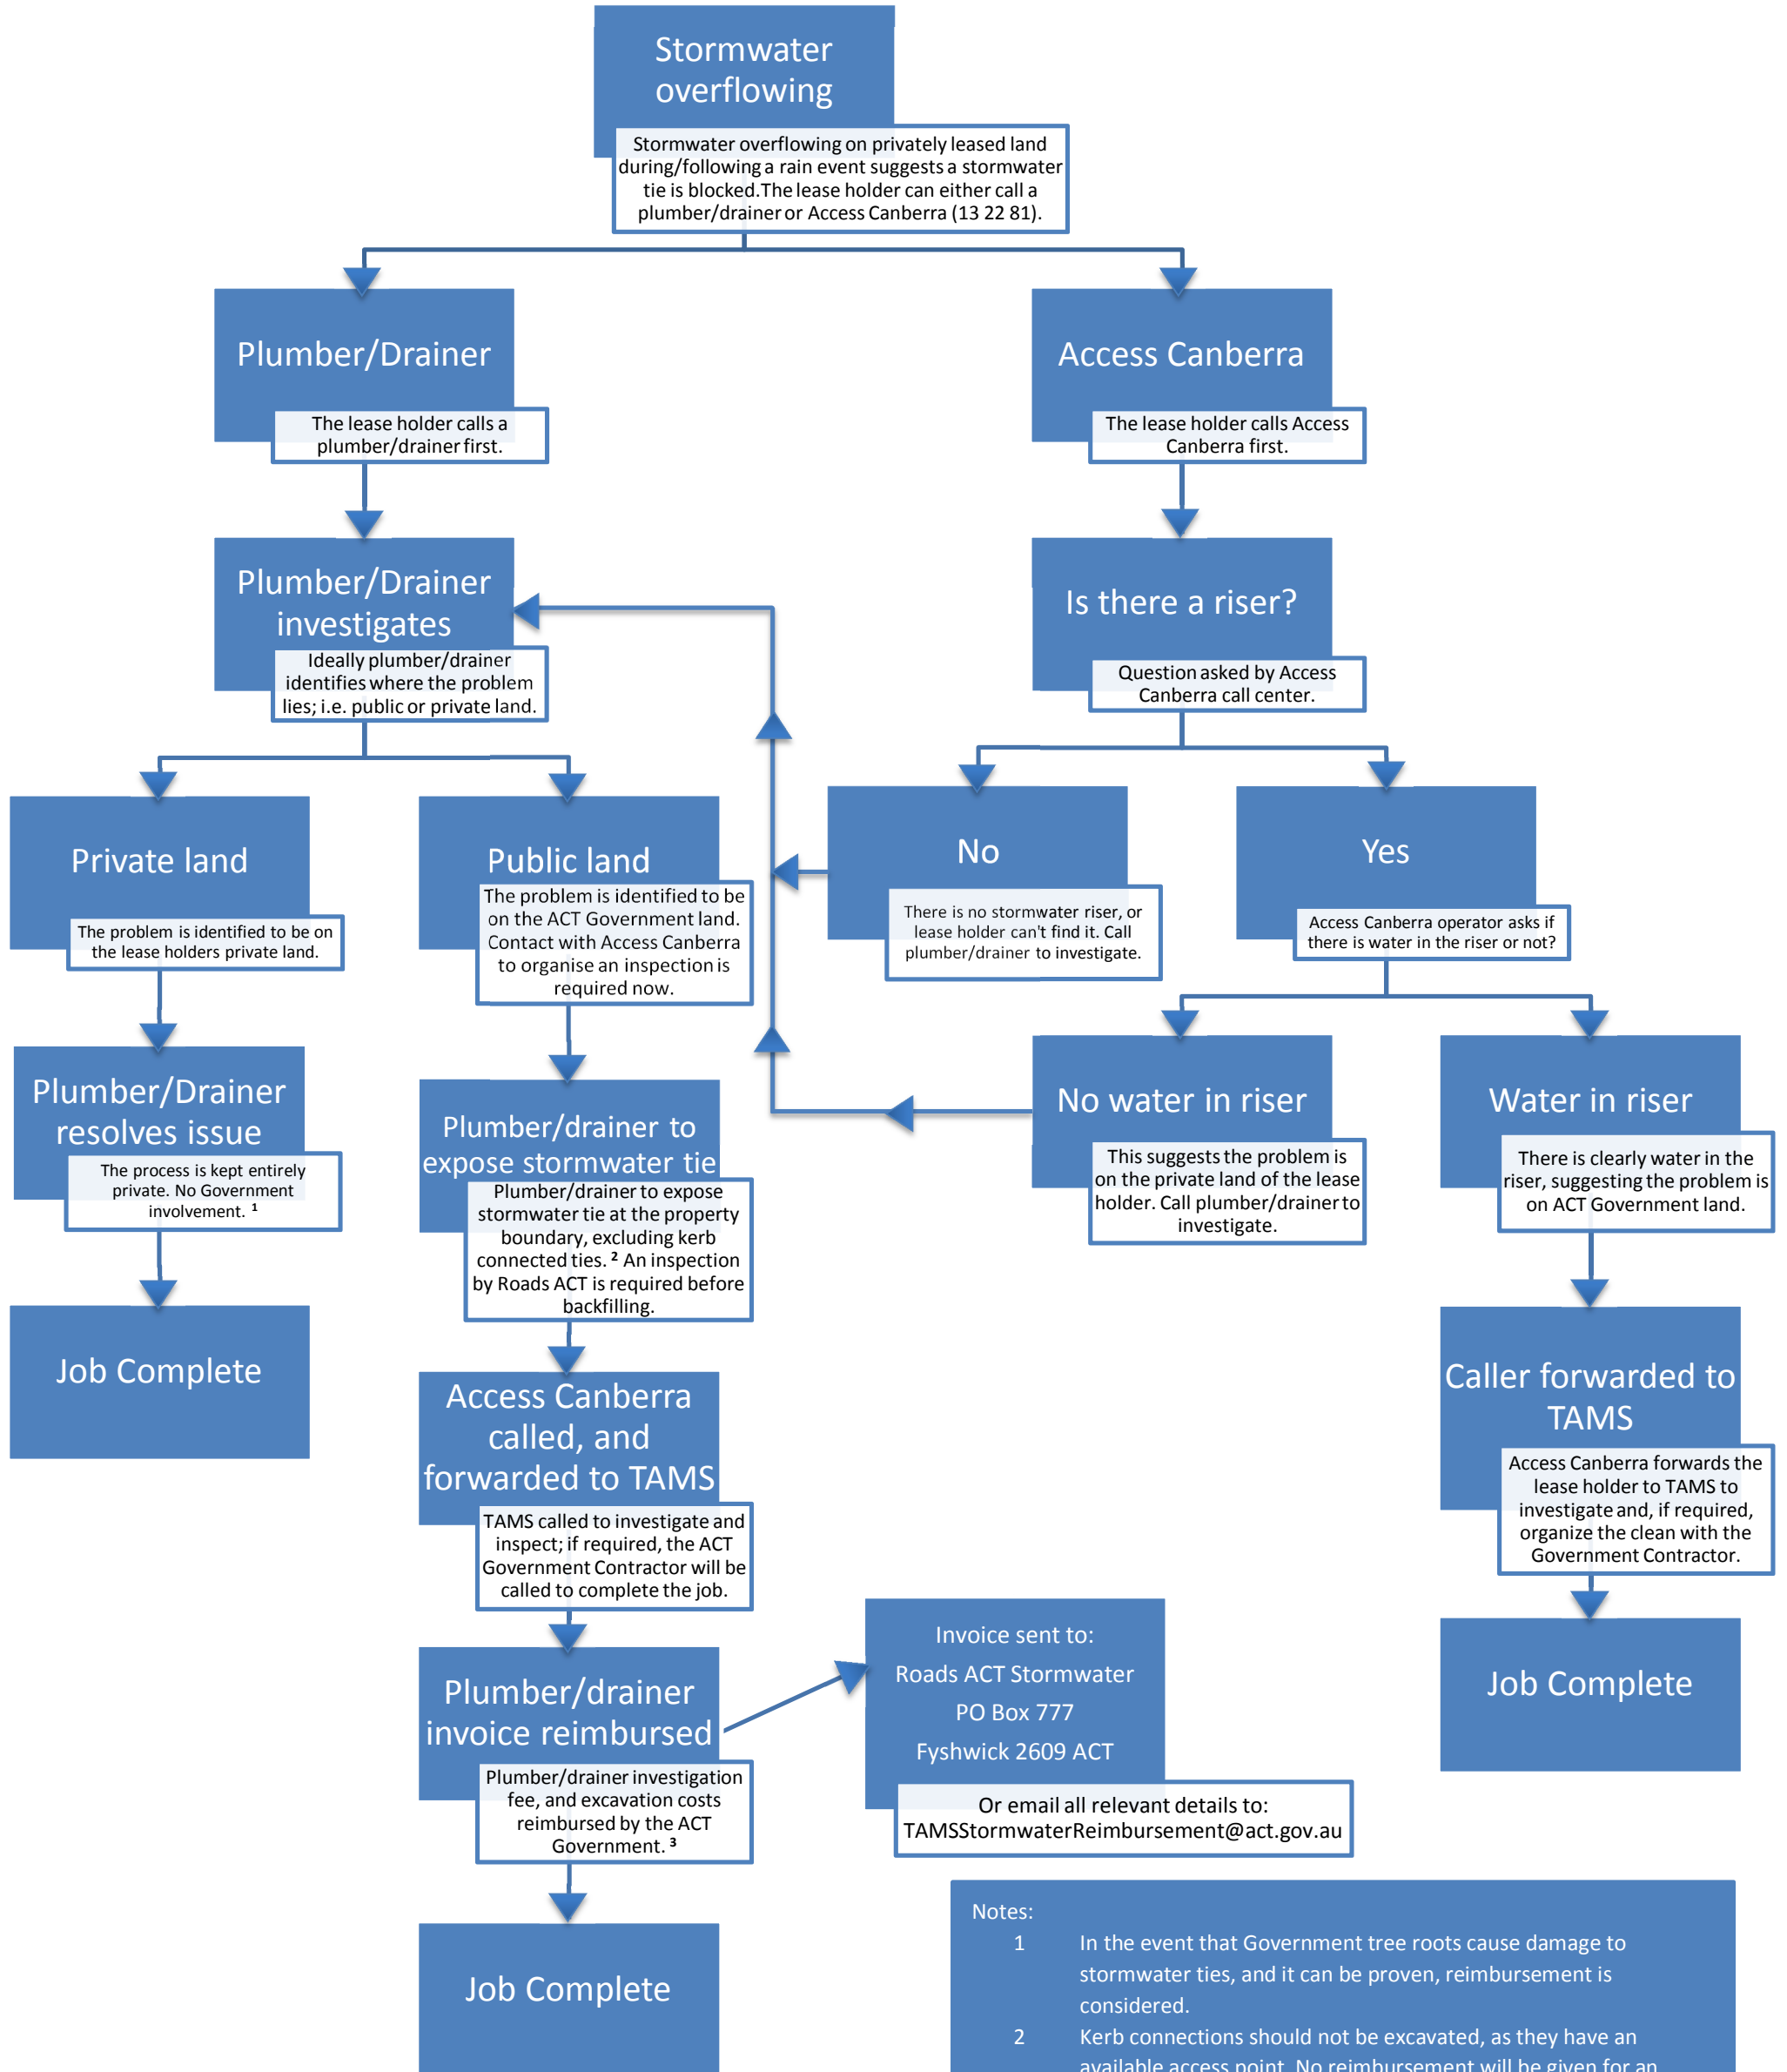

Figure 1 – Process Map for Resolving Stormwater Tie Blockages and Damage
- 3.1 When a blockage occurs, the lease holder should call a private plumber/drainer to investigate the issue. Alternatively, the lease holder can contact Access Canberra, on 13 22 81 or www.accesscanberra.act.gov.au, for further information. Refer to the Process Chart in Section 5 - Figure 1 for a visual guide.